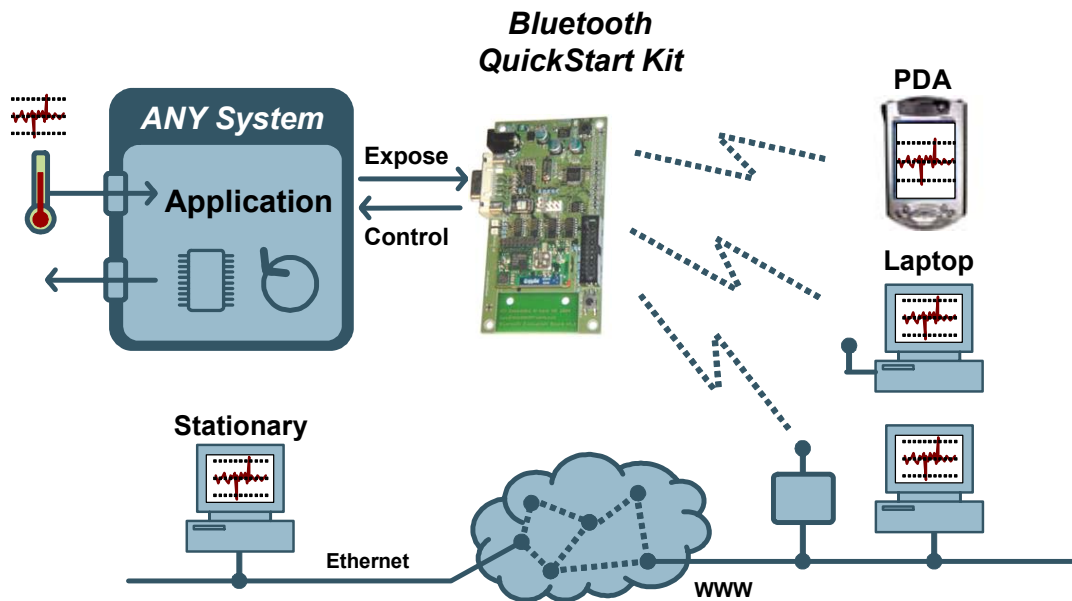

Figure 2 – Typical Bluetooth QuickStart Application Scenario
*Figure 2* below illustrates how the *Bluetooth QuickStart Board* can be connected to any embedded system and expose internal variables in this system, or alternatively controls